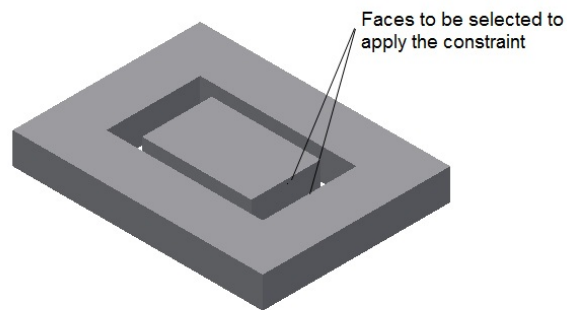

Figure 14-38 Faces selected to apply the **Mate** constraint
- g. Modify the dimensions of the inner cavity of the Outer Plate. The size of the Inner Plate again changes automatically to retain the design intent, refer to Figure 14-38.
10. Now, change the display type of both the plates to **Shaded** and apply the **Mate** constraint with an offset value of 10 mm between the selected faces, as shown in Figure 14-38. Also, You will see that the size of the Inner Plate is reduced in order to fit inside the cavity of the Outer Plate. This is because of the adaptive property of the Inner Plate.